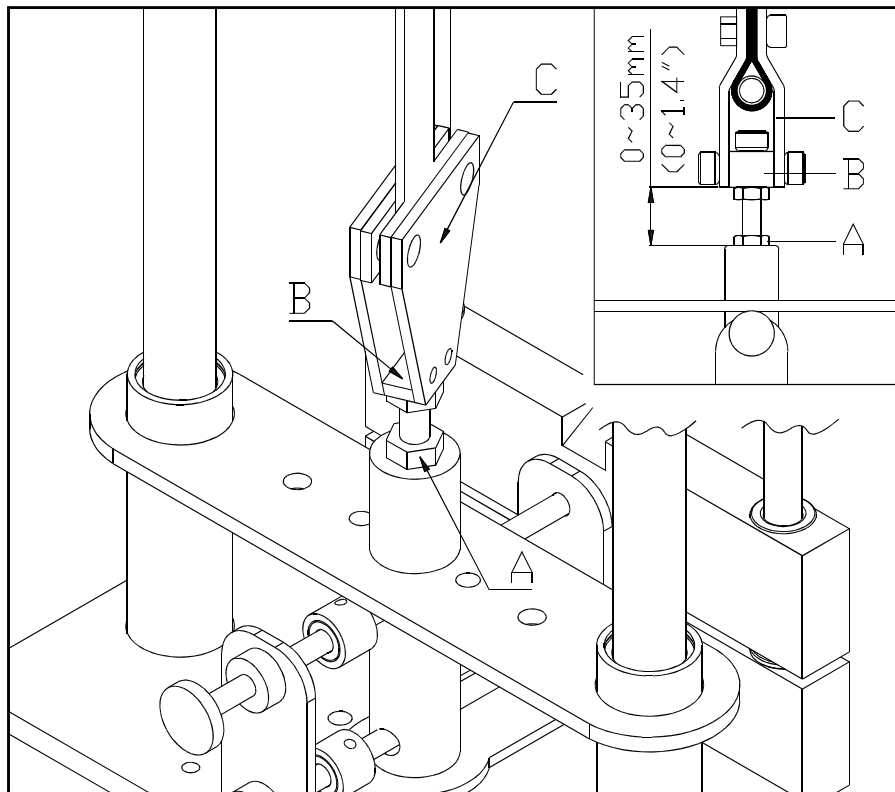

Fig.4
2. The gap between nut A and B must be within 35mm(1.4"). If the gap still exceeds 35mm after the first step, loosen the screws on C and adjust the belt to the proper length. Tighten the screws and repeat the first step again. (See Fig.4)